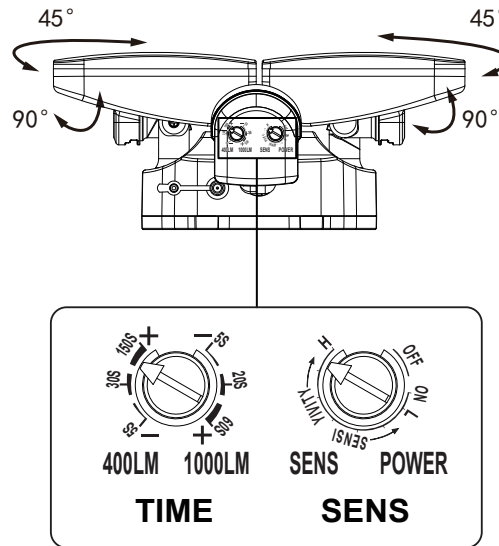

figure 2
- 3) Install solar panels; (Figure 2)